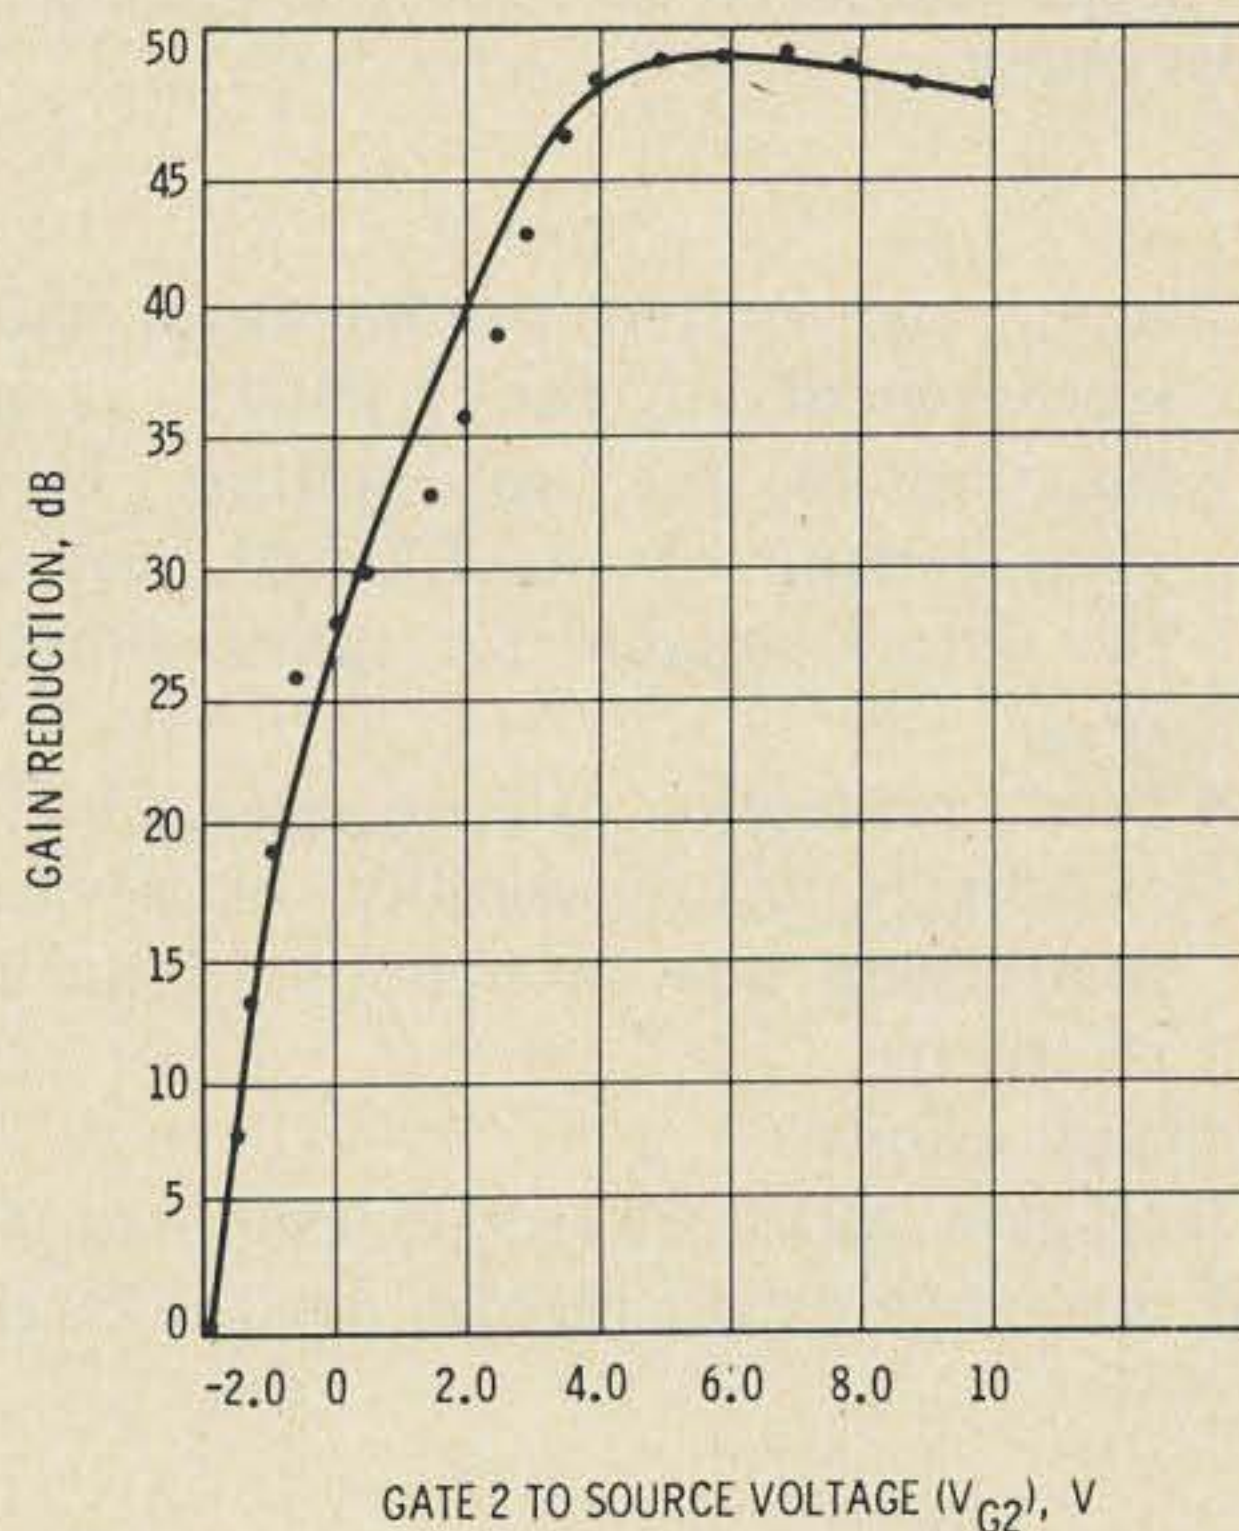

Fig. 2. Agc performance of the FT0601 ( $V_D = 15V$ ,  $F = 200$  MHz).
- Excellent agc performance with an agc range of approximately 50 dB. This characteristic makes the device ideal for use in front-end applications. The agc range of Fairchild's FT0601 is shown in Fig. 2.